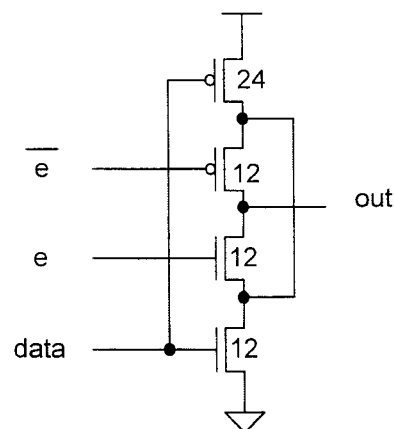

Figure 4.1
- d) Figure 4.1 shows a tristate bus driver with transistor sizes shown relative to unit size. By applying the Theory of Logic Effort, design an inverter chain to drive the enable input e of 128 such tristate bus drivers. You may assume that the first stage of your inverter chain may present an input capacitance of 6 unit-sized transistors. State any assumptions made.